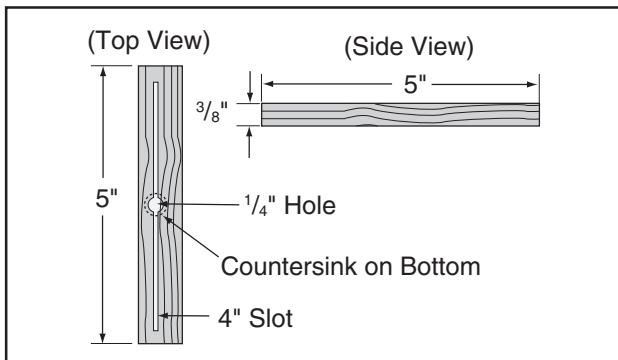

Figure 93. Miter bar pattern.
5. Cut a miter bar that will fit in the table miter slot approximately 5" long, as shown in **Figure 93**.